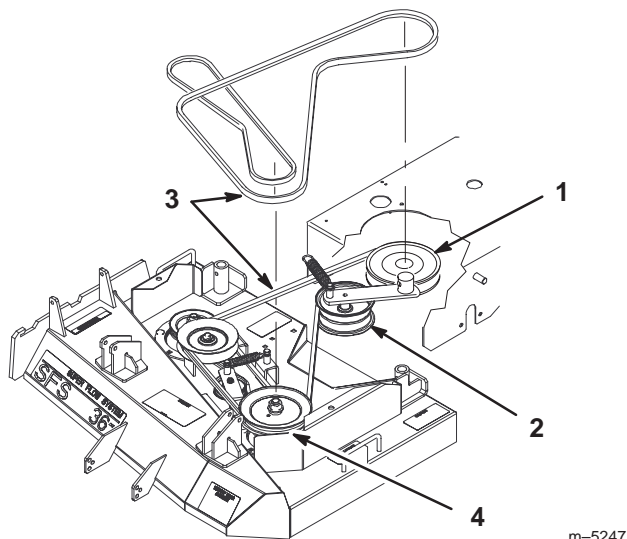

Figure 72
6. Remove the idler spring from idler arm. Remove the drive belt from the PTO clutch pulley, idler pulleys and the left spindle pulley (Fig. 72).
7. Install the new drive belt onto the PTO engagement pulley and the top groove of the center spindle pulley (Fig. 72).
8. Install belt onto idler pulleys and then install idler spring (Fig. 72).